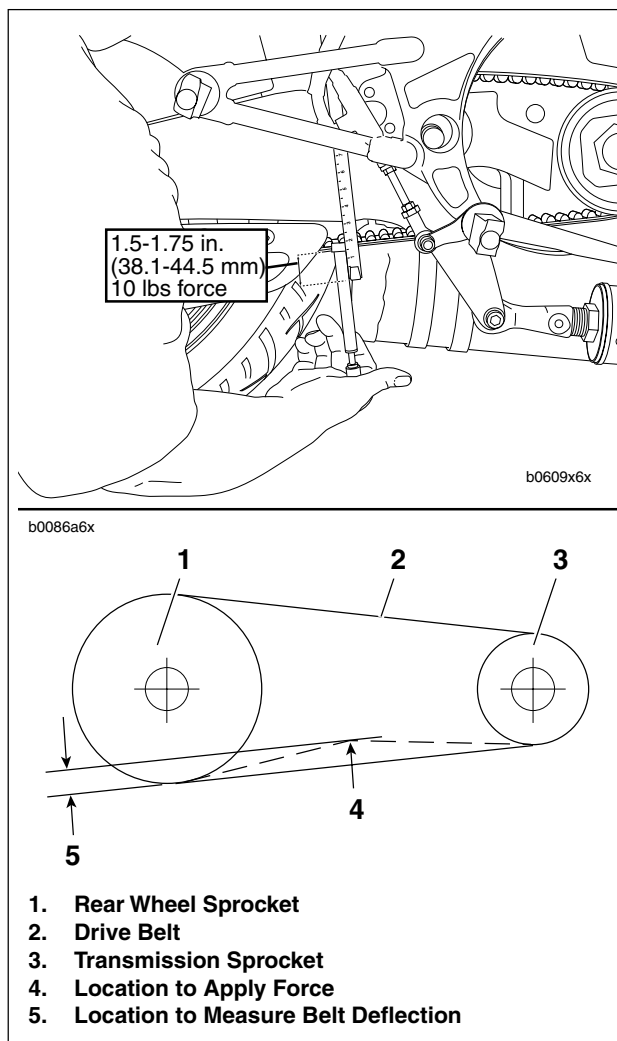

Figure 1-22. Checking Belt Deflection
4. See Figure 1-22. Apply 10 lbs of force to belt at midpoint of bottom strand using BELT TENSION GAUGE (Part No. HD-35381). The deflection should be upwards as shown.